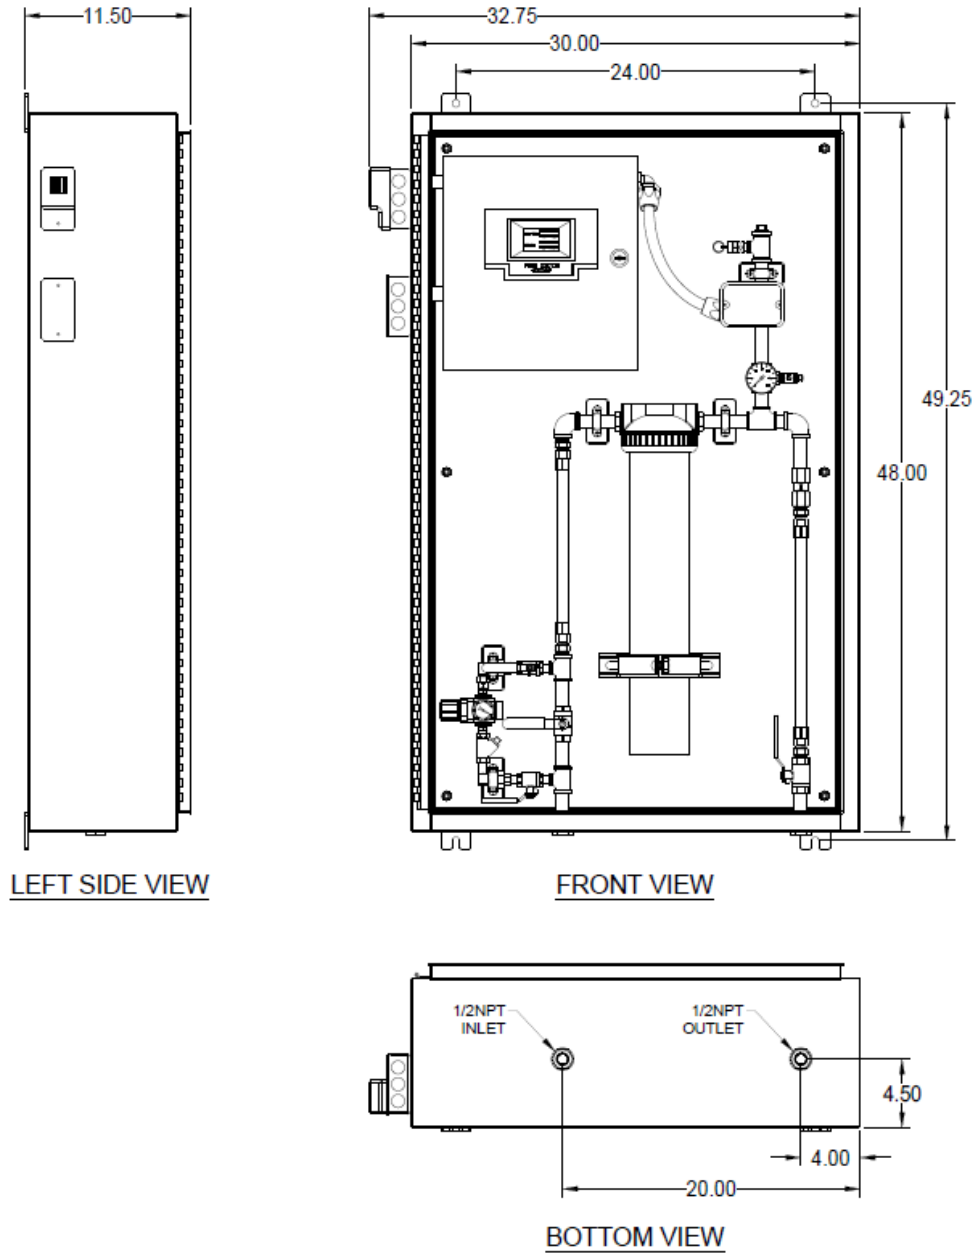

Figure 6 – Dimensions – **STANDPIPE-PAC™** SSS-100-XL1-N
- The backboard may be drilled as needed for mounting. Do not drill holes too close to corners. Where applicable, NEMA enclosure has mounting tabs (See Figure 6).